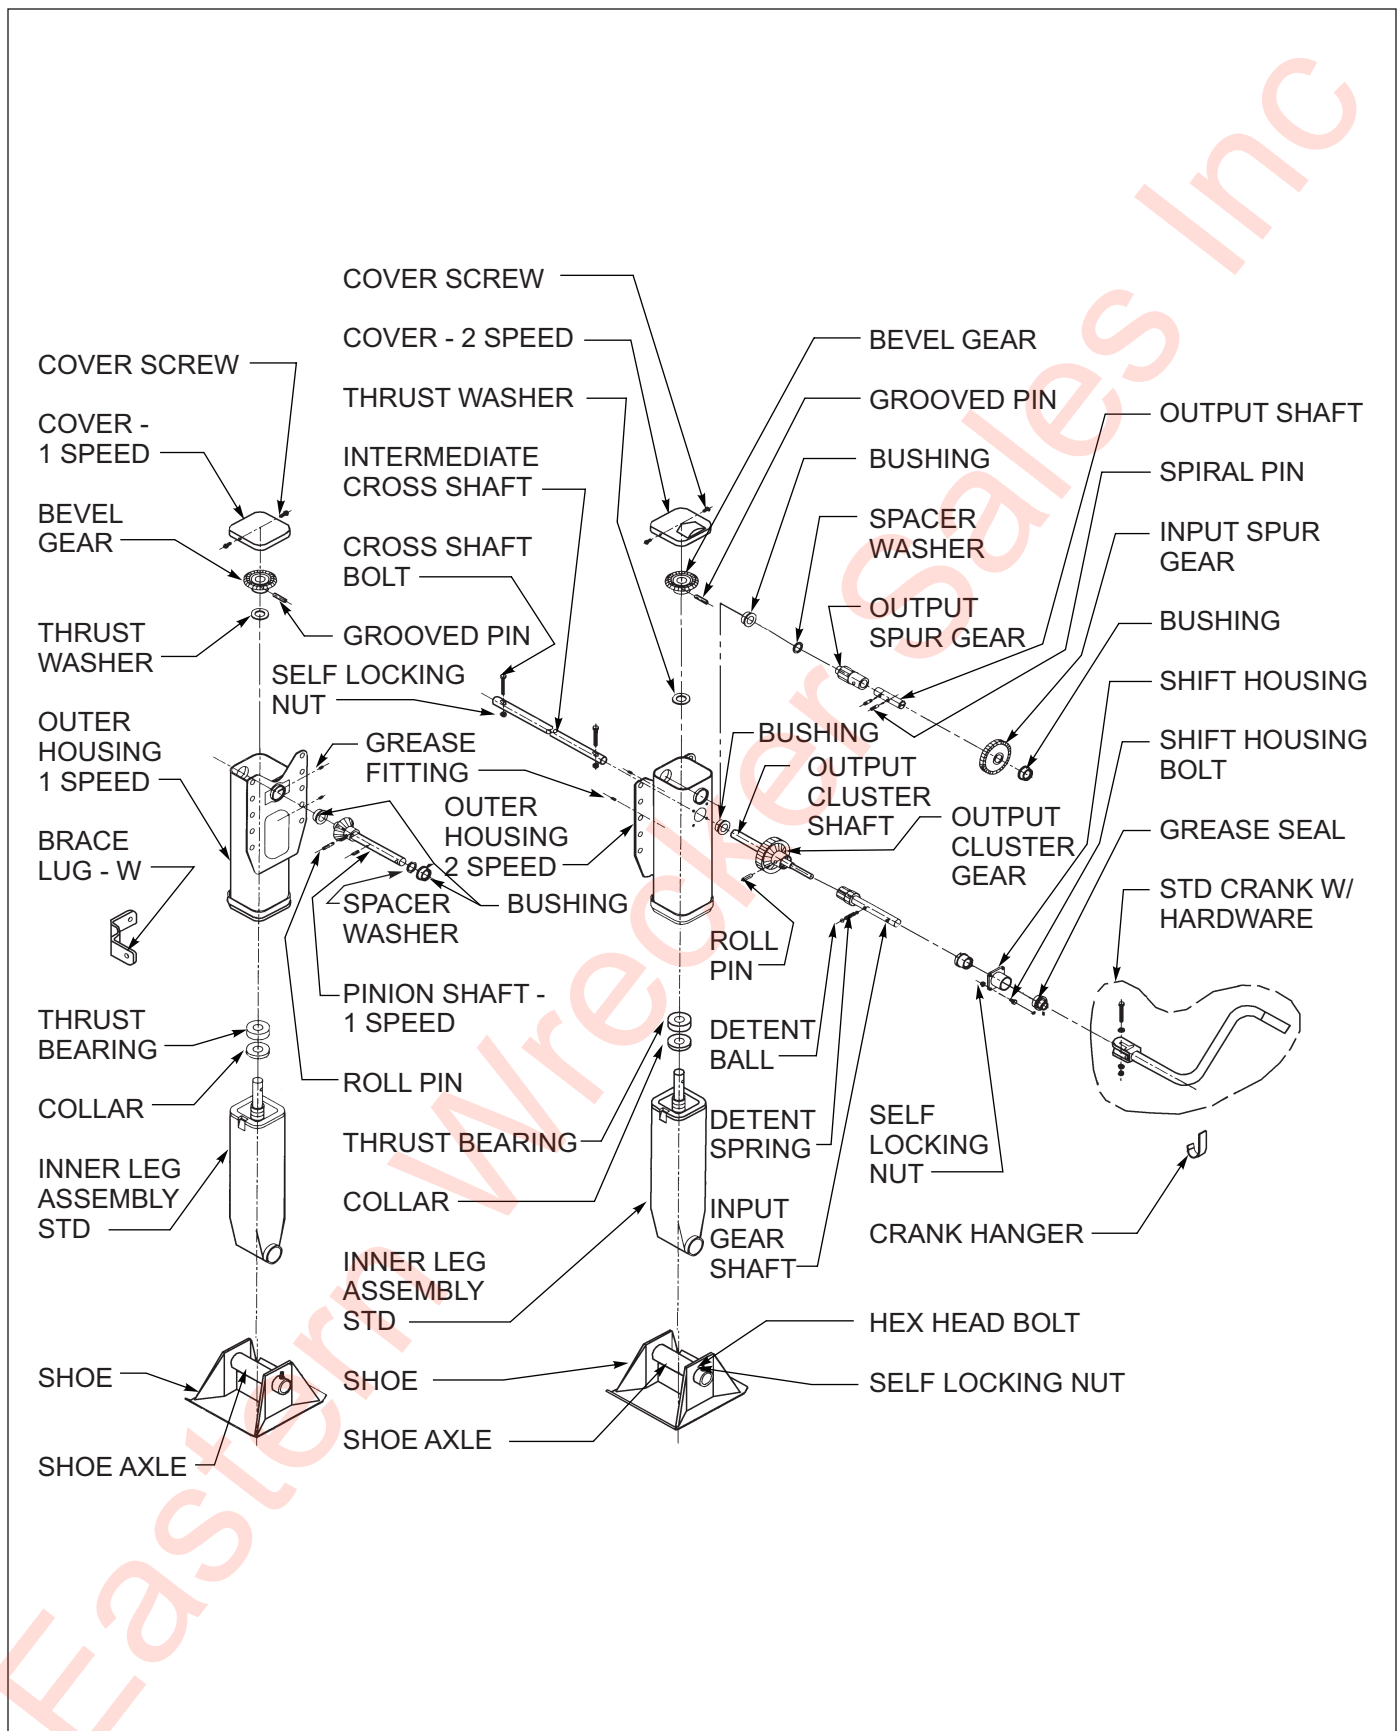

Figure 4-26: Crank Landing Gear Assembly
2. The elevating screw is lubricated by the lower grease fitting located on the upper housing in **Figure 4-26**.